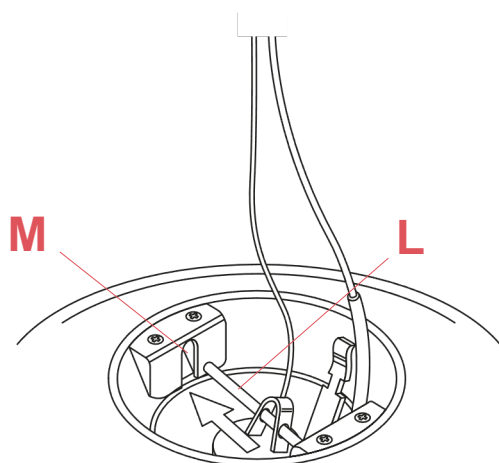

Fig.9
- Insert the rod (L) in the housing (M).(Fig.9)